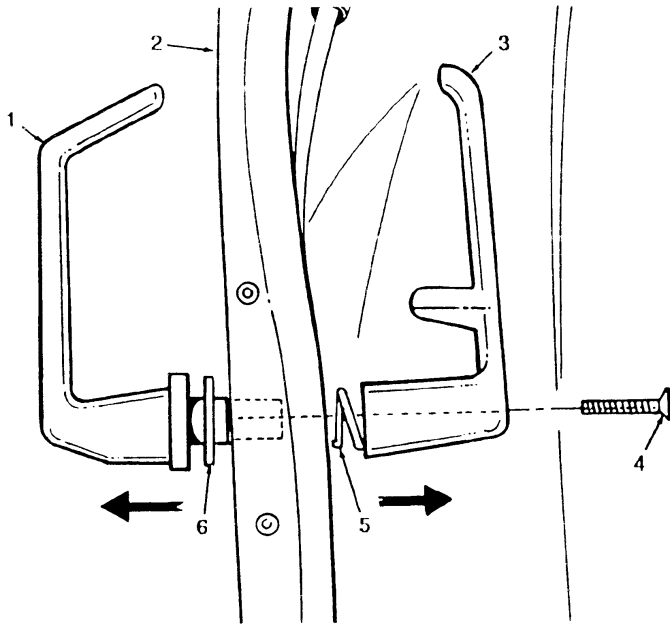

FIGURE 3-6
1. Remove screw (4), inner (3) and outer (1) door handles, washer (6). and spring (5) from door (2), if still attached. (see figure 3-6)